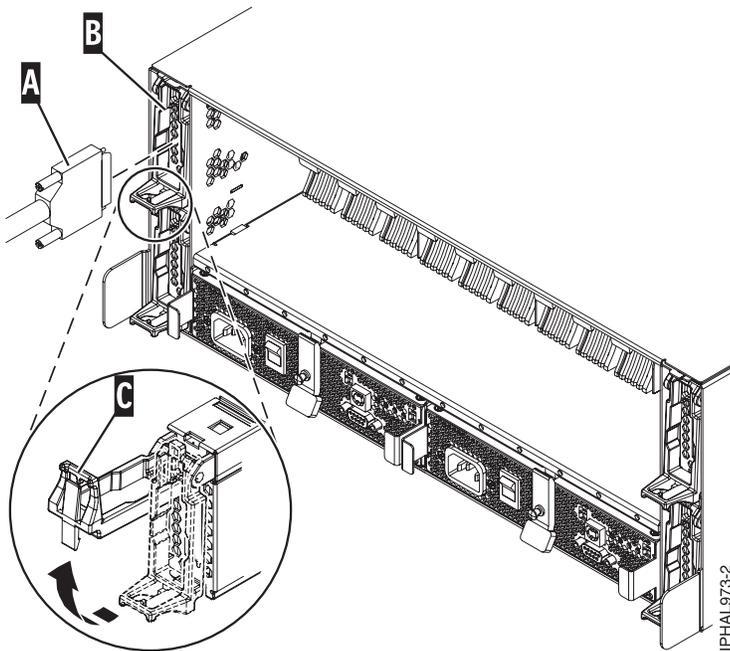
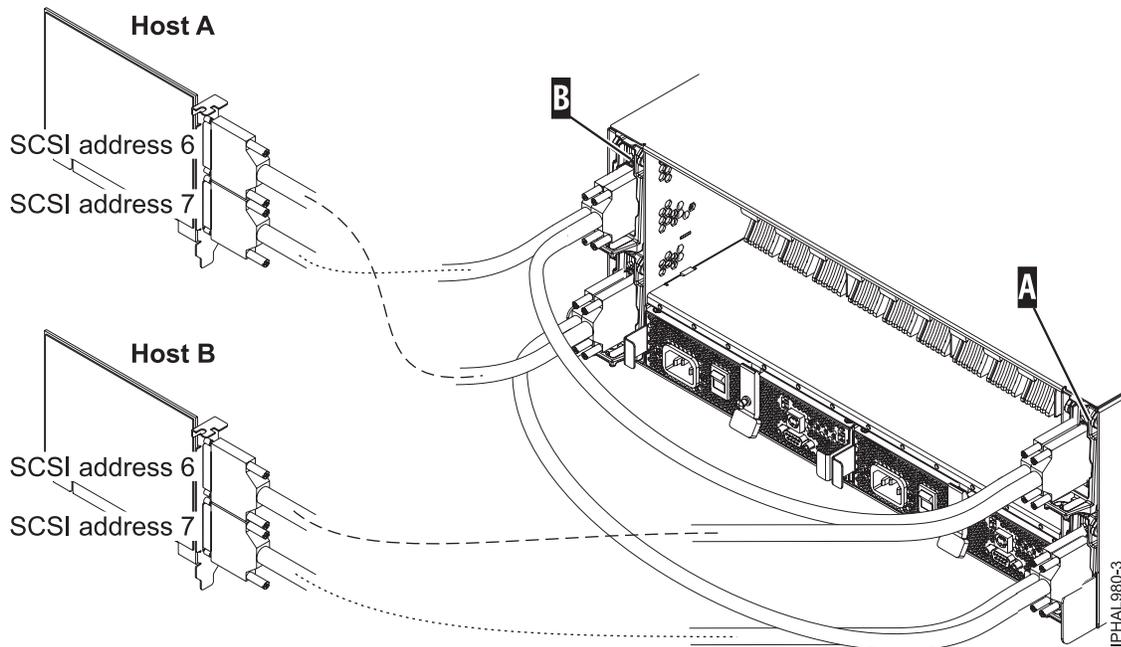
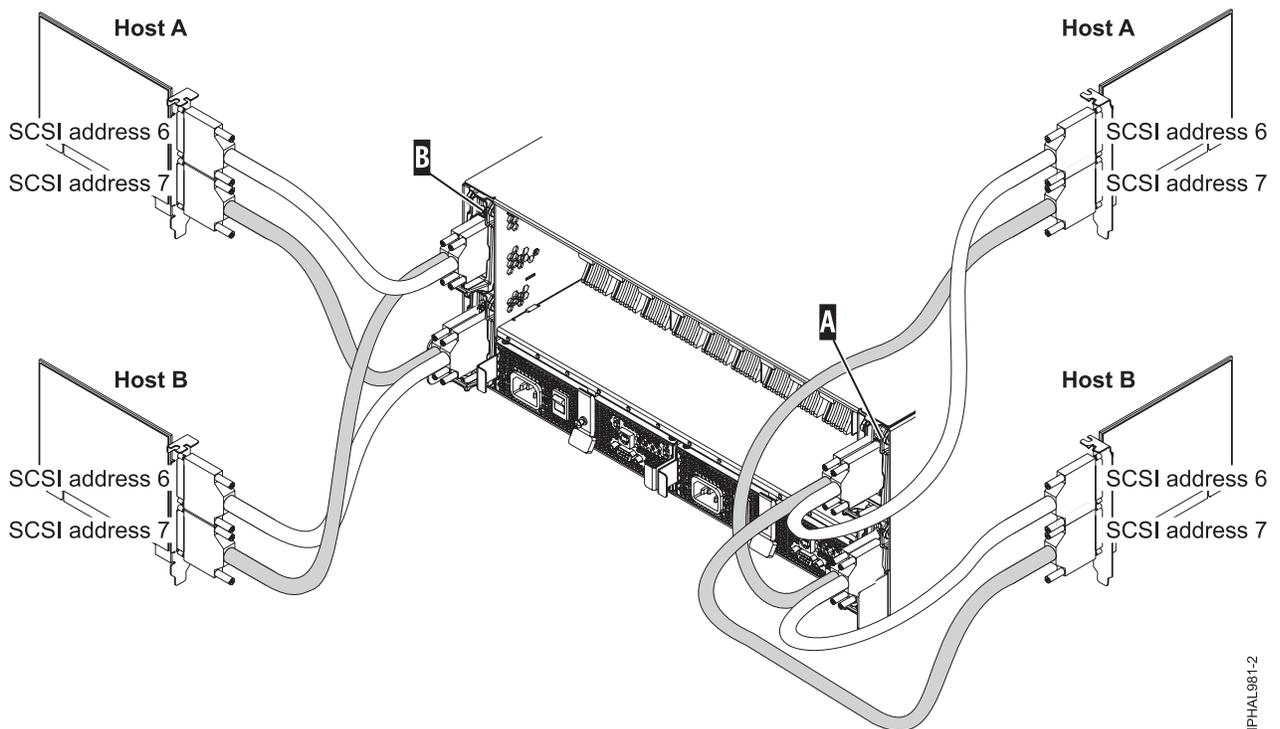

Figure 17. SCSI cable to a single repeater card
Figure 18. SCSI cable to a dual repeater card that is connected with two SCSI cards
Figure 19. SCSI cable to a dual repeater card that is connected with four SCSI cards
- If you are using only single repeater cards or only dual repeater cards, connect your SCSI cable (A) to the initiator repeater card (B). For more details, see Figure 17, Figure 18 on page 51, or Figure 19 on page 51, depending on your situation.